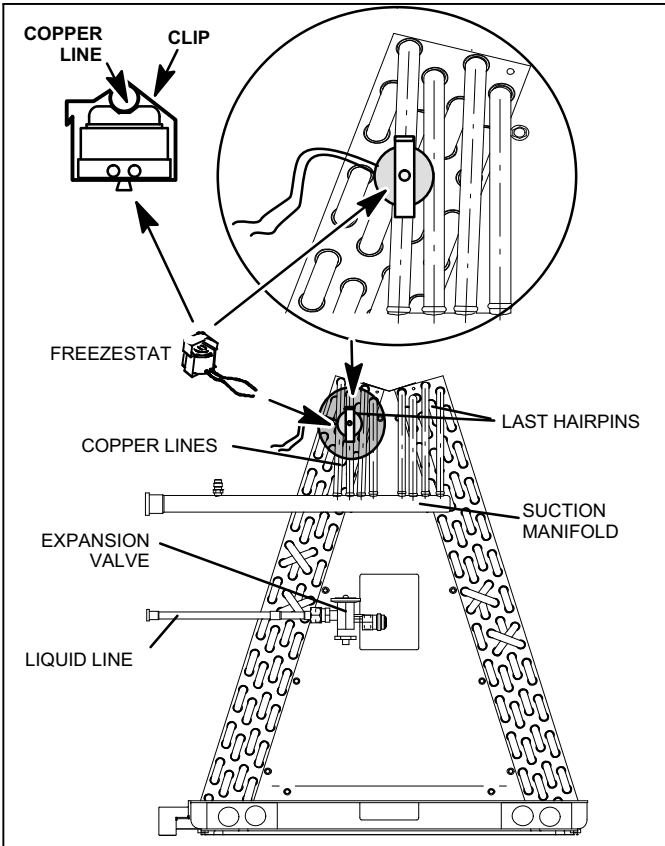

Figure 1. Typical Freezestat (S49) Installation (Indoor Coil)
1. A freezestat, sized per table 1 and ordered separately, must be installed. Install the freezestat on one of the copper lines between the last hairpins and the suction manifold (see figure 1) of the indoor coil.
1. A freezestat, sized per table 1 and ordered separately, must be installed. Install the freezestat near last bend (tube) of the indoor coil before the suction manifold (see figure 1).